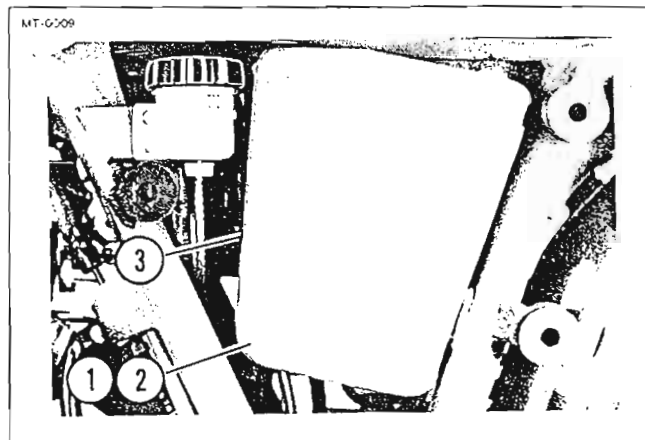

Figure 2-23. Airbox Lid
1. See Figure 2-23. Remove left side panel. Using tool kit screwdriver handle, remove screws (1), plastic washers (2), and airbox lid (3) with attached seal.